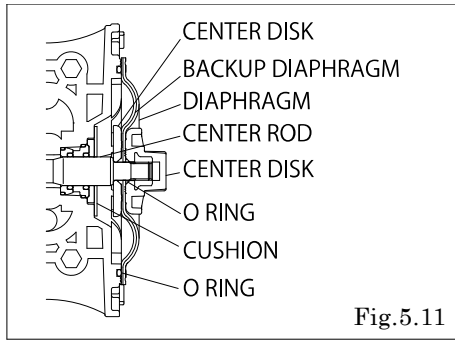

Fig.5.11
- PTFE Diaphragm model : Put the backup diaphragm before PTFE Diaphragm, and O ring after PTFE diaphragm. (cf. Fig.5.11)